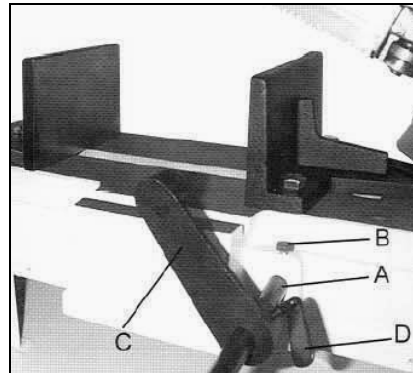

Fig 3
Insert the stop rod (A, Fig 3) into the bed and tighten the screw (B).